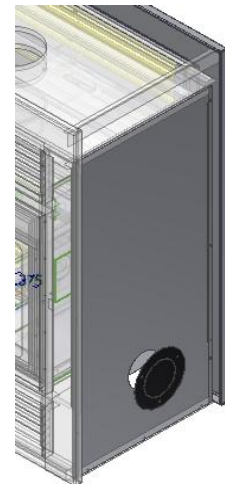

Figure 10
- Remove the flange from the side of the fireplace (Figure 10).